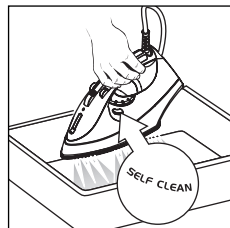

fig. 11
- Hold the iron horizontally over a sink or basin (fig. 11);
- Press the "Self Clean" button (fig. 11) and hold it down while shaking the iron lightly to eliminate the dirt. The plate gives off hot water and steam;